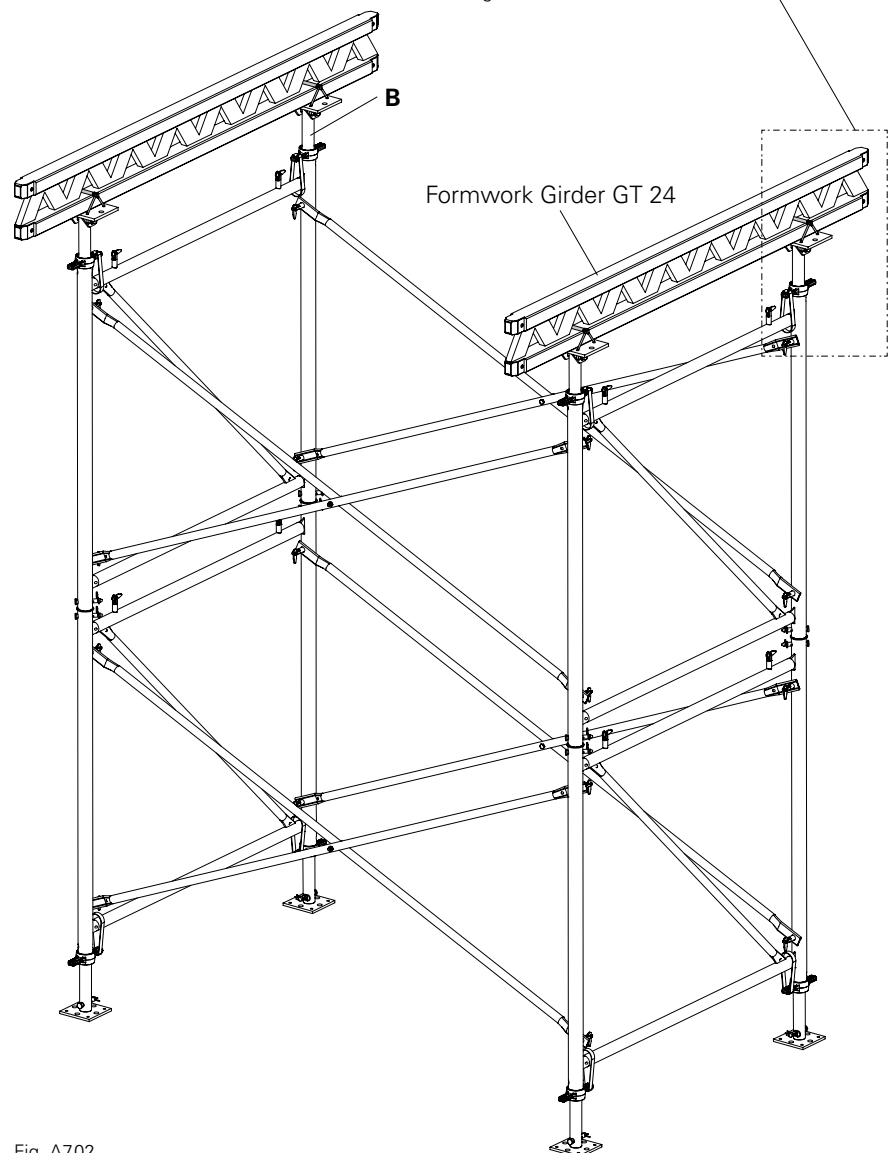

Fig. A7.02
4. Fasten the Double Girder Straps DTB (**21**) onto the head plates for the Spindle Tubes TR 48 (**10**) with nuts. (Fig. A7.02 + A7.02a)